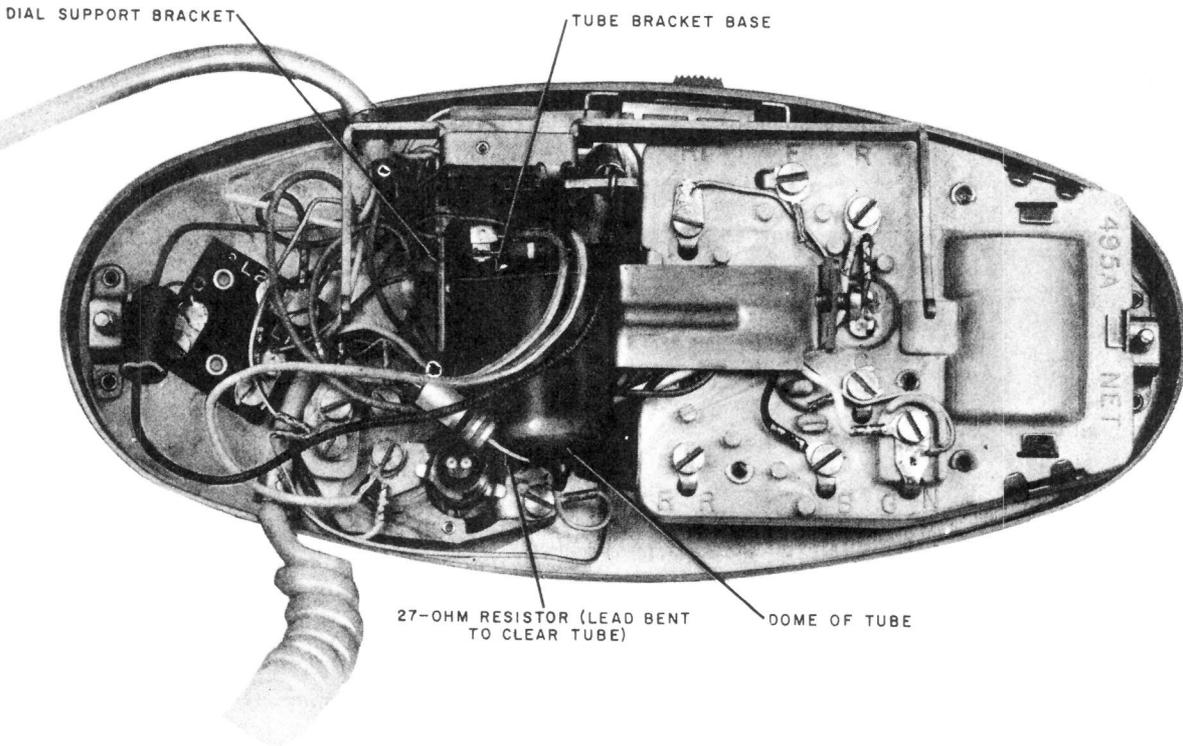

Fig. 12—Location of Cold-Cathode Tube in 701B Telephone Set
3.13 If 4-party selective or 8-party semiselective service is desired, a 425A or 426A cold-cathode tube may be ordered and installed in the base of 701B or 702B telephone sets as follows (Fig. 12):